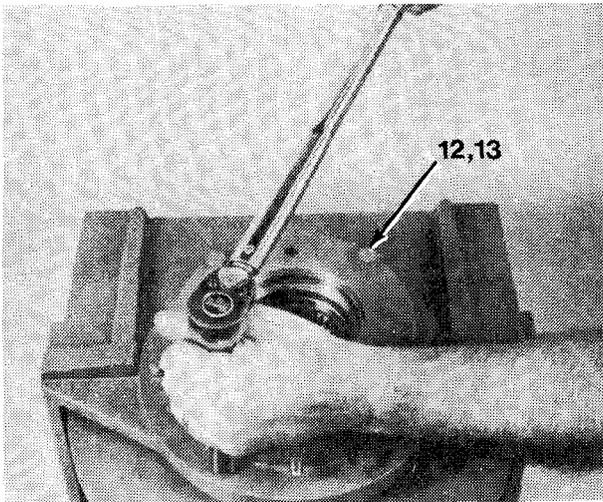

Figure 16-25
21. Install six lockwashers (13) and capscrews (12, Figure 16-25).